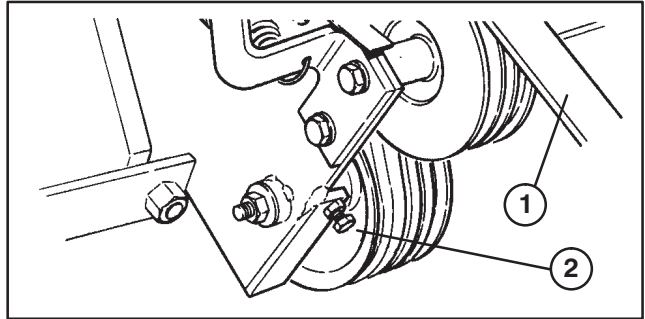

Figure 33
3. If coring head drive belt (Fig. 33) does not properly engage or disengage when entering or exiting the ground, check belt adjustment. Coring head mechanism should begin rotating 1" before tines contact turf.
- C. Loosen adjusting screw jam nut (Fig. 33) on top of idler pulley bracket.
- D. With engine running at idle speed, rotate adjusting screw (Fig. 33) until coring head just barely starts to creep or stops. Then tighten adjusting screw one more turn. Tighten jam nut.